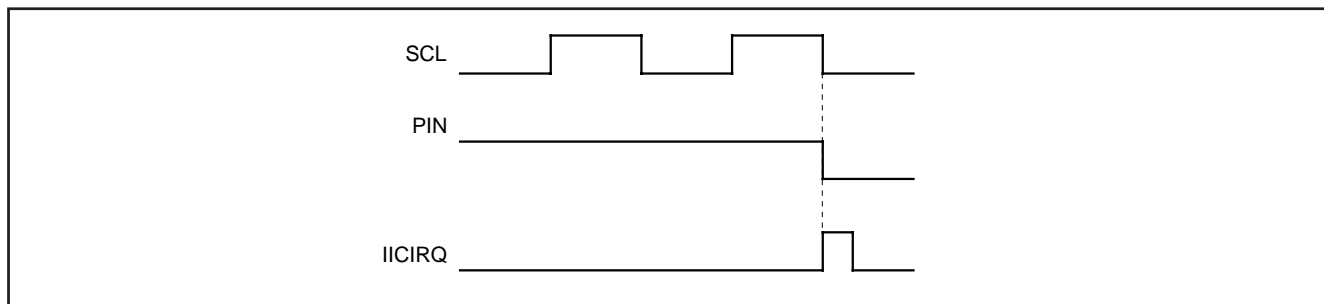

Fig. 8.6.8 Interrupt Request Signal Generation Timing
This bit generates an interrupt request signal. Each time 1-byte data is transmitted, the state of the PIN bit changes from "1" to "0." At the same time, an interrupt request signal is sent to the CPU. The PIN bit is set to "0" in synchronization with a falling edge of the last clock (including the ACK clock) of an internal clock and an interrupt request signal occurs in synchronization with a falling edge of the PIN bit. When detecting the STOP condition in slave, the multi-master I2C-BUS interface interrupt request bit (IR) is set "0" to "1" (interrupt request) regardless of falling of PIN bit. When the PIN bit is "0," the SCL is kept in the "0" state and clock generation is disabled. Figure 8.6.8 shows an interrupt request signal generating timing chart.